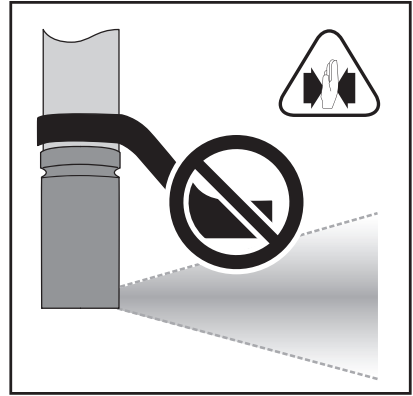

Figure 3B
- Use of extra long sockets may move the reaction bar outside the safe torque reaction area. See Figure 3B. Use an extended torque reaction bar to maintain safe torque reaction area. See Reaction Bars Parts List on page A-1.